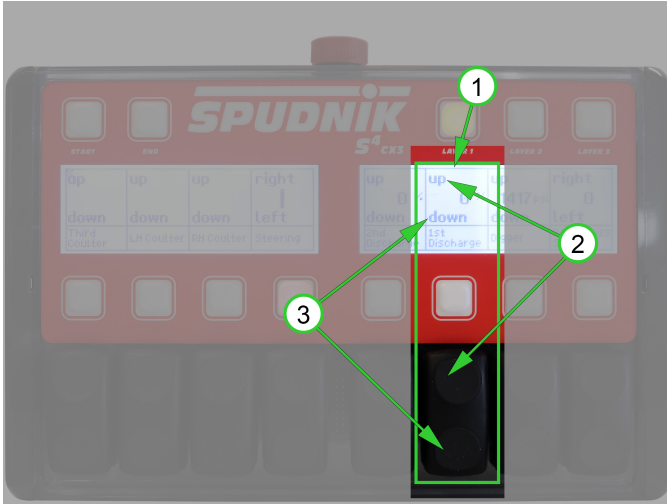

Figure 27
The CX3 has eight rocker switches arrayed below the bottom row of soft keys. The rocker switches are numbered in the same sequence as the soft keys. Like the soft keys, the function changes according to the selected layer. Each function is arranged in a (1) control column. Each control column displays the function name and the action associated with the rocker switch. For example, (2) up and (3) down, right/left, more/less, etc. (See Figure 27)